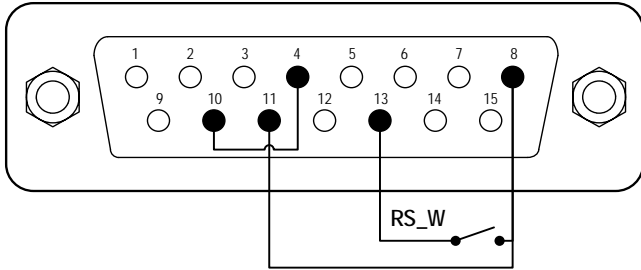

Figure 16. Logic Level Control with Internal 12V Power Source
- 1) Switch the power off. Wire the DB15 connector as shown in Figure 16 or Figure 17, and connect it to the DB15 port on the rear of the pump.